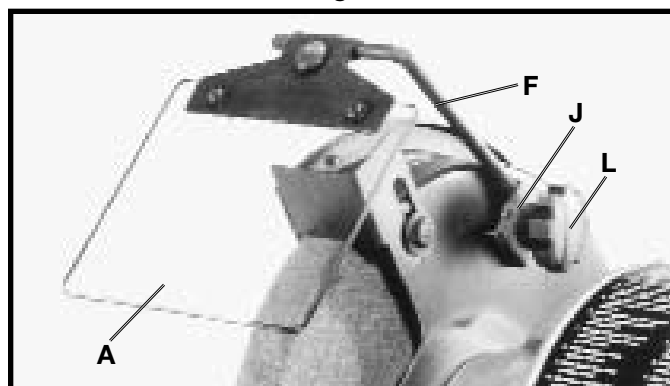

Fig. 8
3. Assemble long end of eye shield mounting rod (F) Fig. 8, to the side of each wheel guard using bracket (J), 3/8" lockwasher, and locking knob (L). The eye shield (A) is fully adjustable so it can be put in any position by moving the shield (A) or loosening locking knob (L) and repositioning rod (F). Assemble the remaining eye shield to the other wheel guard in the same manner.